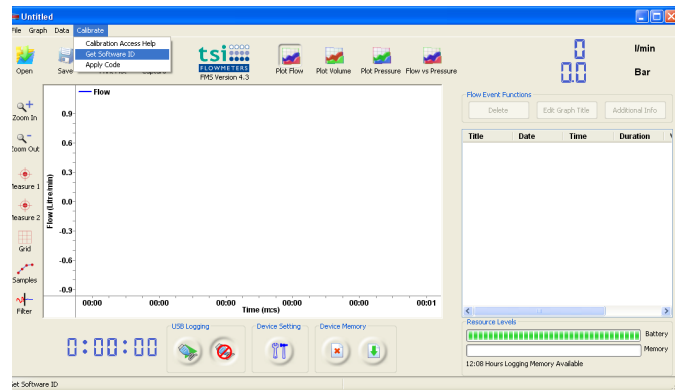

Fig. 5.10 Select the calibrate tab from menu
- Determine the code for your meter from the 'Get Software ID' on the calibrate tab. Please refer to Fig. 5.10 and Fig. 5.11.